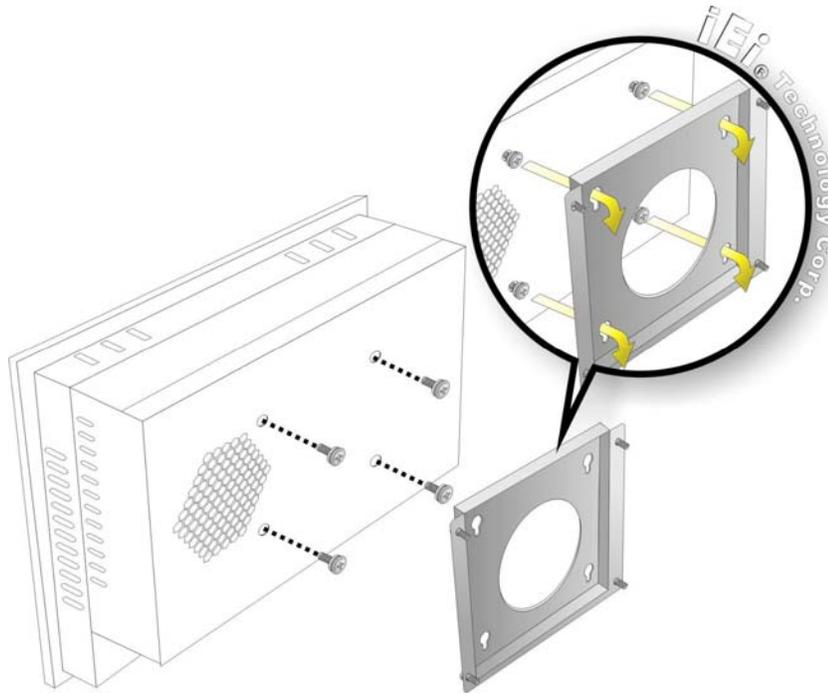

Figure 4-21: Mount the Chassis
- Step 6:** Insert the four monitor mounting screws provided in the wall mounting kit into the four screw holes on the rear panel of the monitor and tighten until the screw shank is secured against the rear panel (**Figure 4-21**).
- Step 2:** Carefully insert the screws through the holes and gently pull the monitor downwards until the monitor rests securely in the slotted holes (**Figure 4-21**). Ensure that all four of the mounting screws fit snugly into their respective slotted holes.